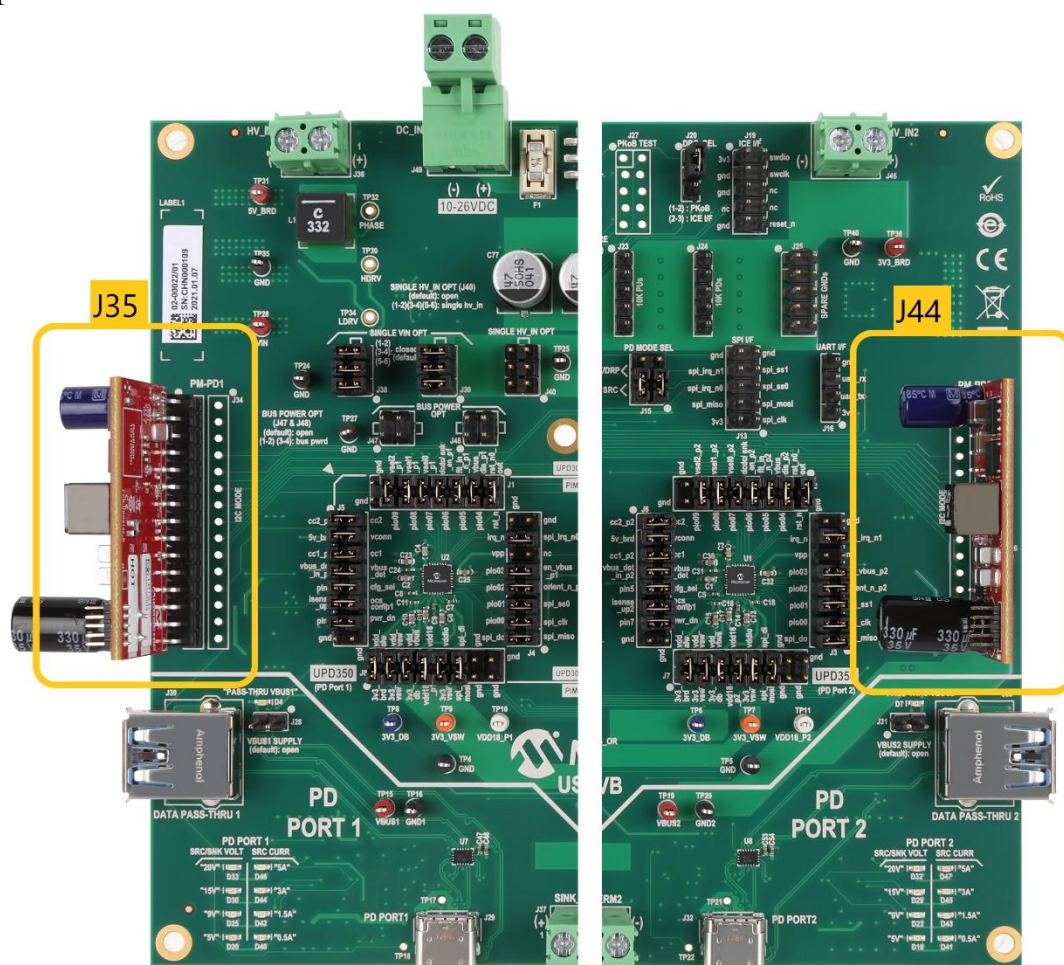

Figure 5.1 PM-PD Orientation
1. Connect PM-PD Modules to J35 and J44 of the EVB-PSF in correct orientation as shown in Figure 5.1